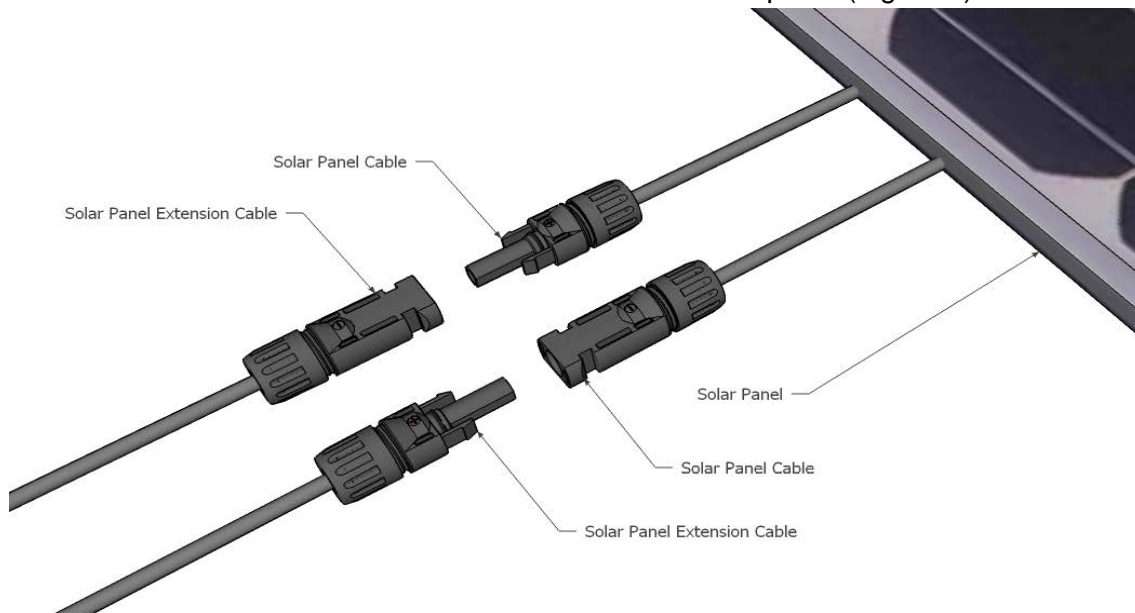

Figure 3: Solar panel extension cable connections to solar panel
1. Connect one end of each of the two solar cables to the panel (Figure 3).